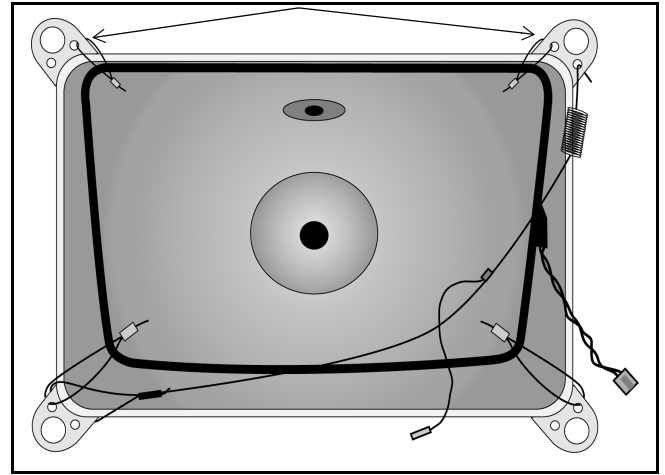

Figure 7. Deg Coil and DAG GND
7. Mount the dag ground braid on the replacement CRT as shown in Fig 7. Position the degaussing coil with new ties. Dress coil as was on the original CRT.